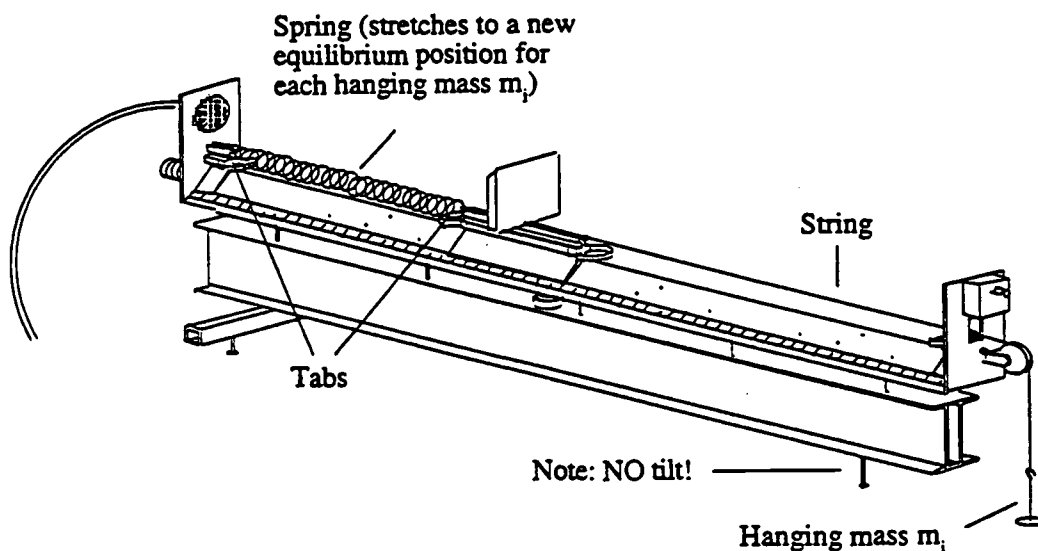

Figure 3: Set-up for Part IIIa
1. As shown in Figure 3, hook one end of the spring to the tab on the aluminum extrusion at the non-pulley end of the air track and the other end of the spring to one of the tabs on the glider. Put the hook on the thread through the tab on the other end of the glider, pass the thread through the hole in the transducer mounting plate, and then over the pulley at the end of the air track. Finally, place a 5.0 gram mass hook on the end of the thread. Add another 20.0 g for a total  $m_i$  of 25.0 g.